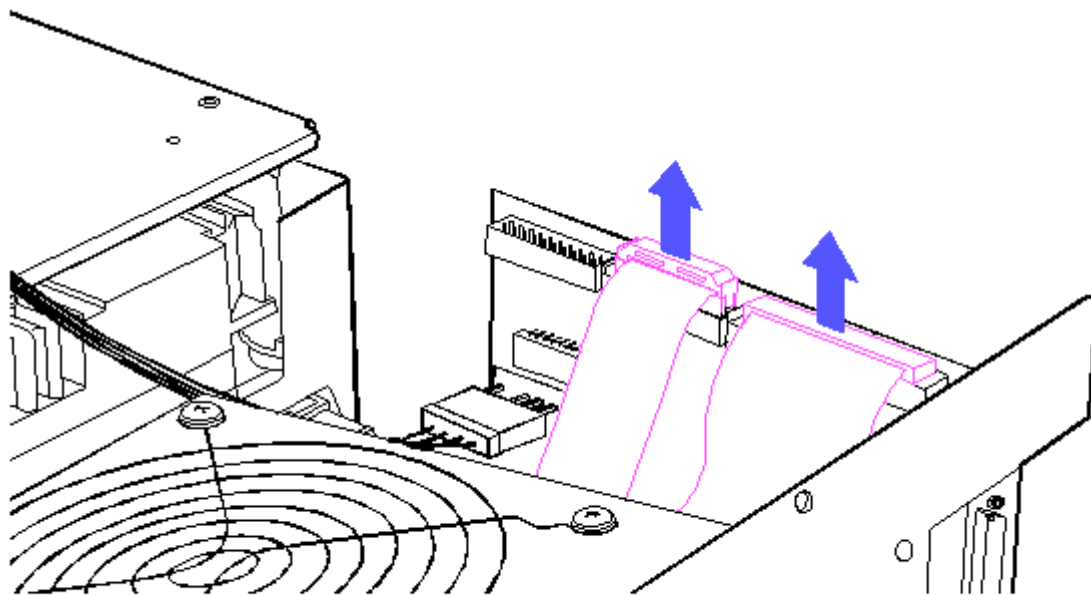

Figure 8-113. Disconnecting the Signal Cables
2. Disconnect the 20 pin and 34 pin signal cables from the external interface adapter board (Figure 8-113).